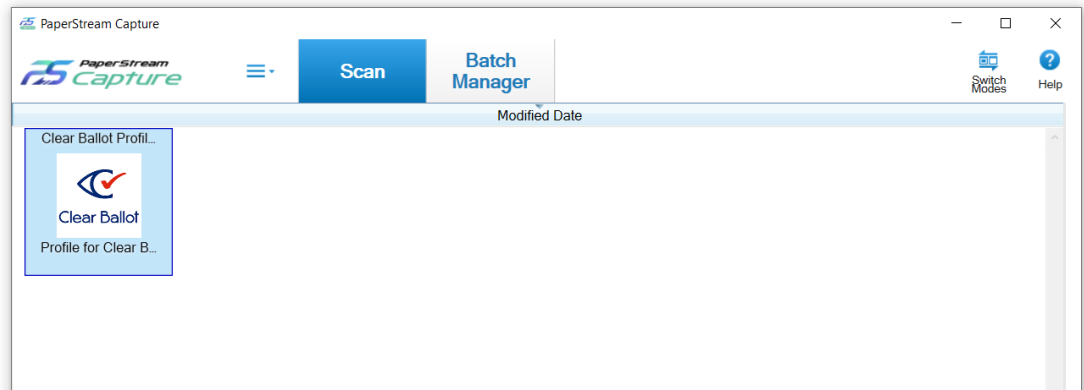

Figure 5-2. PaperStream Capture application
1. On the ScanStation, open the PaperStream Capture program by double-clicking its desktop icon and click **Switch Modes** in the upper right corner (Figure 5-2).